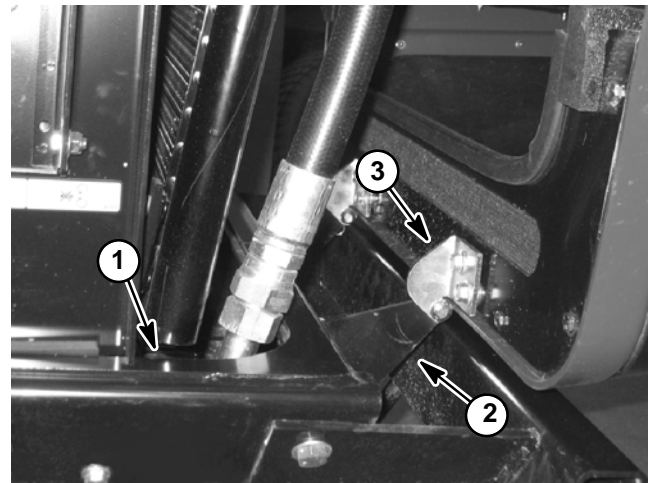

Figure 24
A. Place shim that is from 3/8" to 7/16" (9.5 to 11.1 mm) thick on top of frame (both RH and LH sides) near the sides of oil cooler (Figs. 24 and 25).